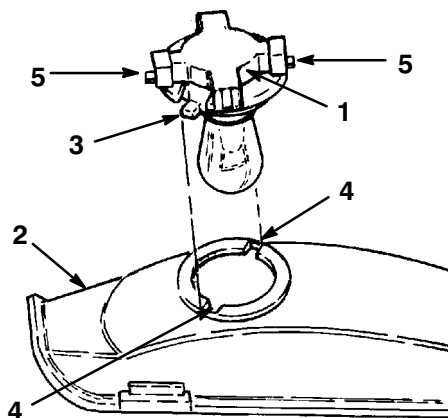

Figure 18
3. Rotate the bulb holder 1/4 turn counterclockwise and remove it from the reflector (Fig. 18).
2. The bulb holder has two tabs (Fig. 18). Align the tabs with the slots in the reflector, insert the bulb holder into the reflector and rotate it 1/4 turn clockwise until it stops.